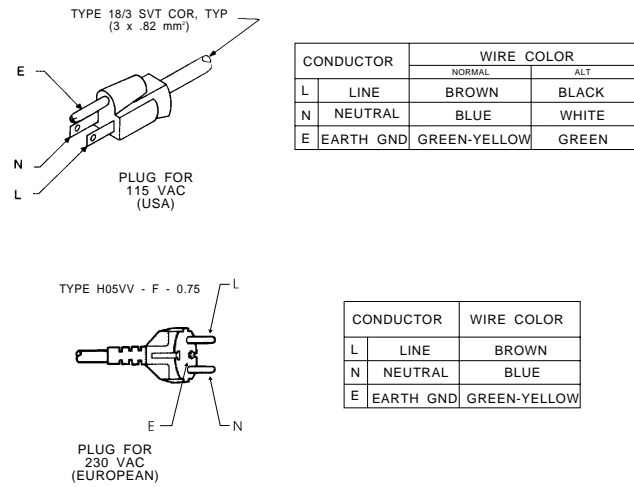

Figure 2-1: AC Line Cord Wire Standard
2-7	Figure 2-1: AC Line Cord Wire Standard
- ☐ B Refer to Figure 2-1 to find the jumpers on the main circuit board and to position them according to your application.
To change the source impedance of composite output #1, move jumper JA to the “75 Ω ” position (Fig 2-1). To change the source impedance of composite output #2, move jumper JB to the “75 Ω ” position (Fig 2-1).
Move jumpers J301 and J305 according to Figure 2-1. Jumper J301 sets the left channel and jumper J305 sets the right channel.
Move jumpers J302, J303, J306, J307 and J308 according to Figure 2-1. Jumpers J302 and J303 set the left channel and jumpers J306 and J307 set the right channel. Jumper J308 sets the control circuit to recognize the new input sensitivity.